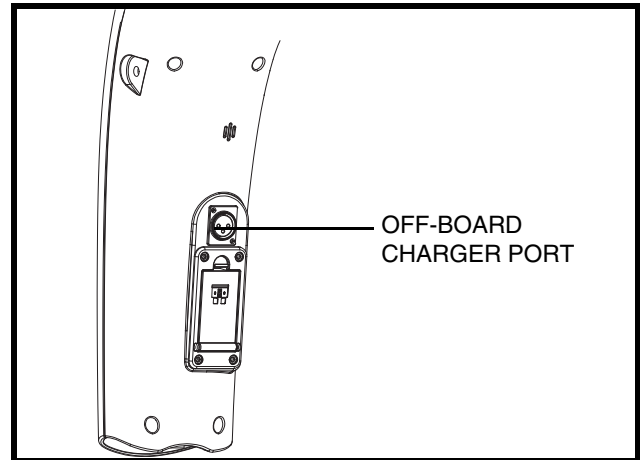

Figure 5. Off-board Charger Port (Tiller Mounted)
The off-board charger power cord plugs into this port during battery charging. The off-board charger port will be located on the tiller. **See figure 5.**
4. Plug the 3-pin charger power cord into the off-board charger port. **See figures 5 and 11.**